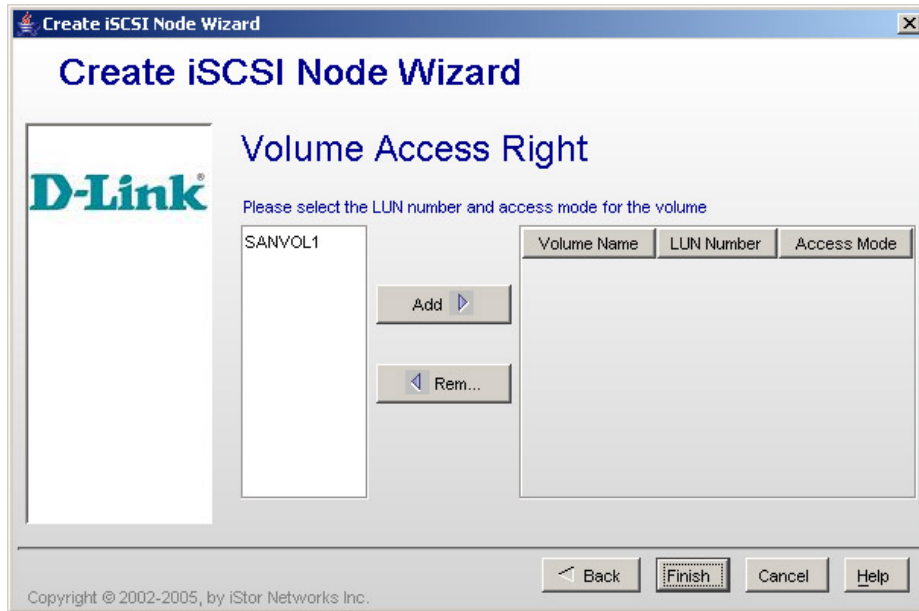

Figure 5-34. Create iSCSI Node Wizard – Volume Access Right Screen
11. Click **Next**. The Volume Access Right screen appears (see Figure 5-34).